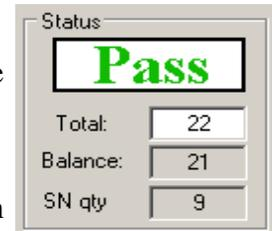

Figure 4.5-3
**Status** window (see fig. 4.5-3) has a counter that is useful in production process. The total number of programmed microcontrollers can be entered in the **Total** edit line. The **Balance** line shows the number of microcontrollers that have not been programmed yet. The Balance counter is initialized to the value entered in the **Total** edit line and is decremented every time *Auto Program* is completed successfully.